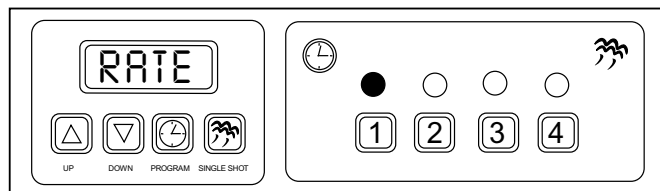

Figure 5. RATE Mode on Menu 1
RATE (Shot Interval Time) is the time set between each shot of steam during a complete cycle (Figure 5).
6. While in Program mode (press the PROGRAM button if not in this mode), press both the UP and DOWN arrow buttons simultaneously. RATE will appear in the display for a moment (Figure 5).